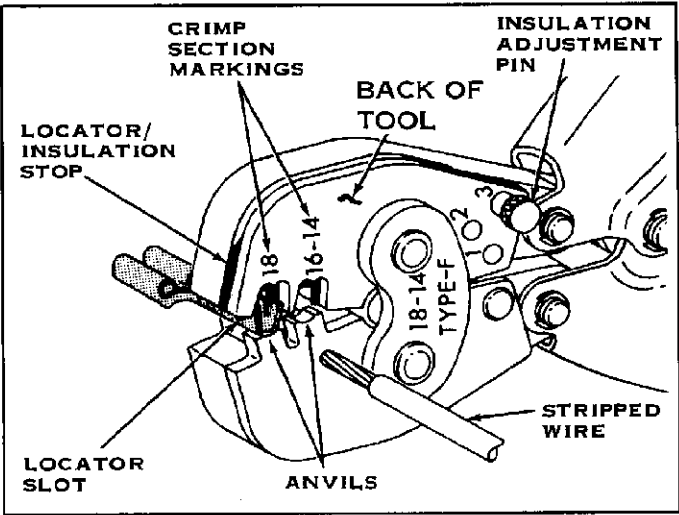

FIGURE I-3
1. Hold the tool so that the BACK of it is facing you. See Figure I-3.
3. Insert the contact (Insulation Barrel first) into the FRONT of the tool. Place the contact on the Anvil of the proper crimp section and position the Locator/Insulation Stop in the Locator Slot of the contact. See Figure I-3.